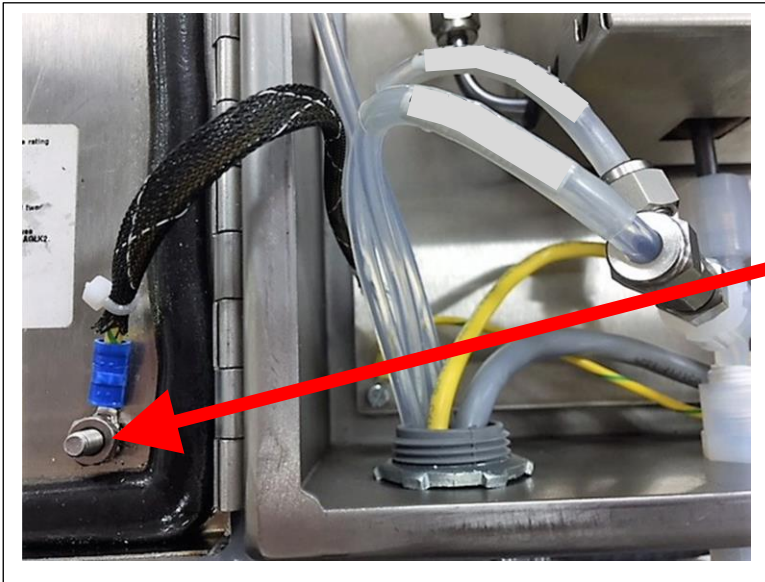

Figure 12
28. Remove lower left slot head machine screw from Moly mounting plate (Figure 12). Put the original screw through the new ground cable ring terminal with 2 wires.